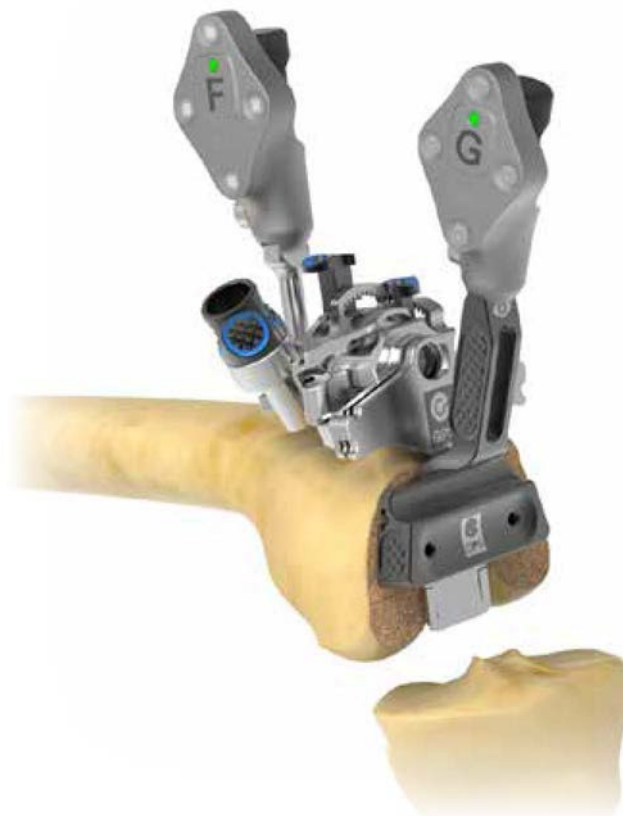

Figure 28
Verify your resection by placing the Truliant Blade Drill Guide with the GPS Guide Tracker (G) attached on the cut surface (*Figure 28*).